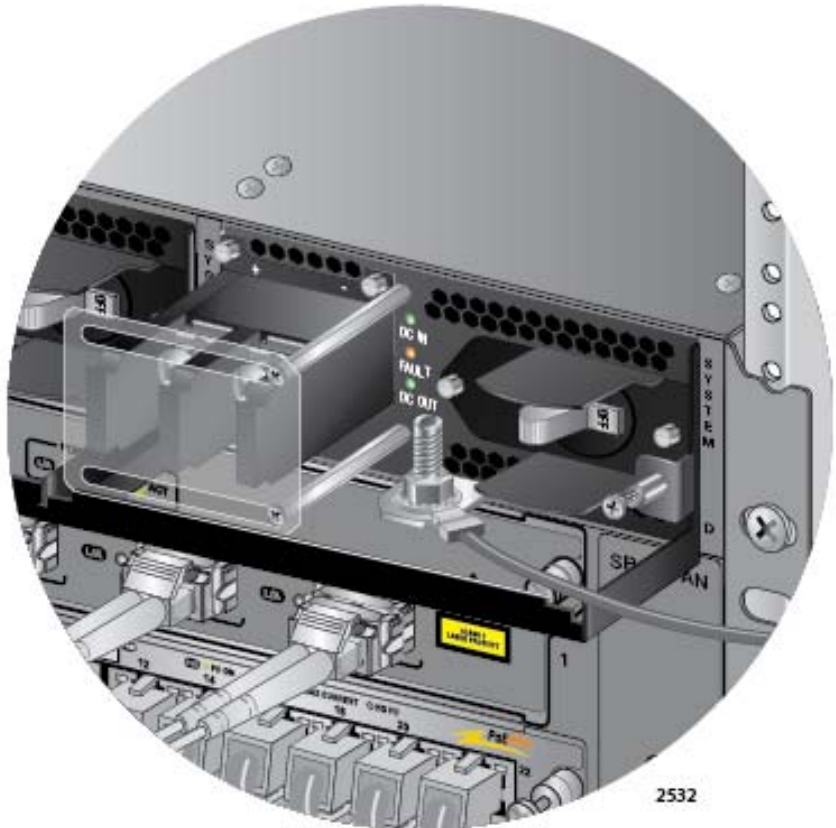

Figure 135. On/Off Switch On the AT-SBxPWRSYS1 DC Power Supply
3. Verify that the On/Off switch on the AT-SBxPWRSYS1 DC Power Supply is in the Off position. Refer to Figure 135.
13. Turn the On/Off switch on the power supply to the On position. See Figure 135 on page 201.
3. Verify that the On/Off switch on the AT-SBxPWRSYS1 DC Power Supply is in the Off position. Refer to Figure 135 on page 201.
9. Before attaching the power wires from the power supply to the circuit breaker in the wiring closet, check that the circuit breaker is off. Refer to Figure 135 on page 201.
12. Turn the On/Off switch on the power supply to the On position. See Figure 135 on page 201.
2. Verify that the On/Off switch on the AT-SBxPWRSYS1 DC Power Supply is on the Off position. Refer to Figure 135 on page 201.